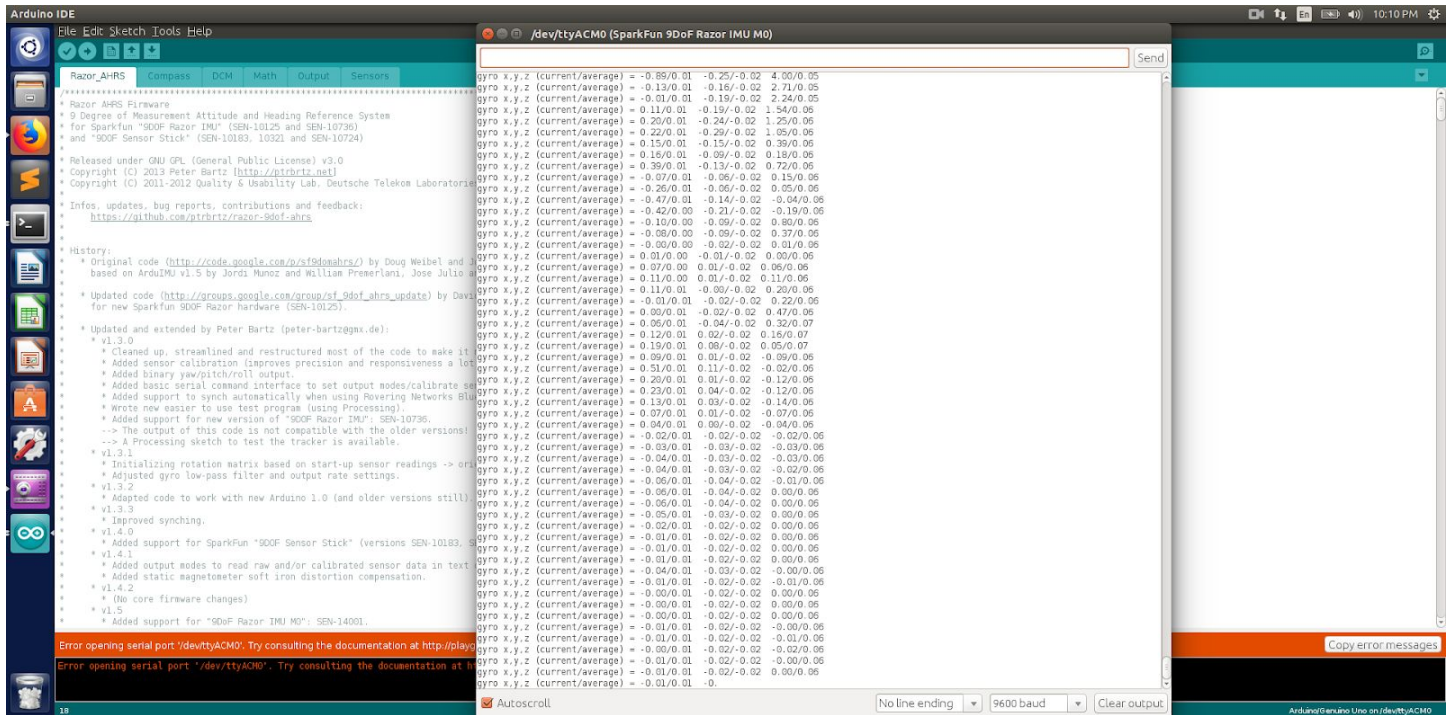

Fig 4: Gyroscope readings from IMU
- 6) Gyroscope calibration was relatively simple. Pressing #on twice started giving gyroscope readings on the serial monitor (as shown in the Fig 4), and waiting for sometime gives the time to collect and average the noise on gyroscope. And the same values were updated on firmware.